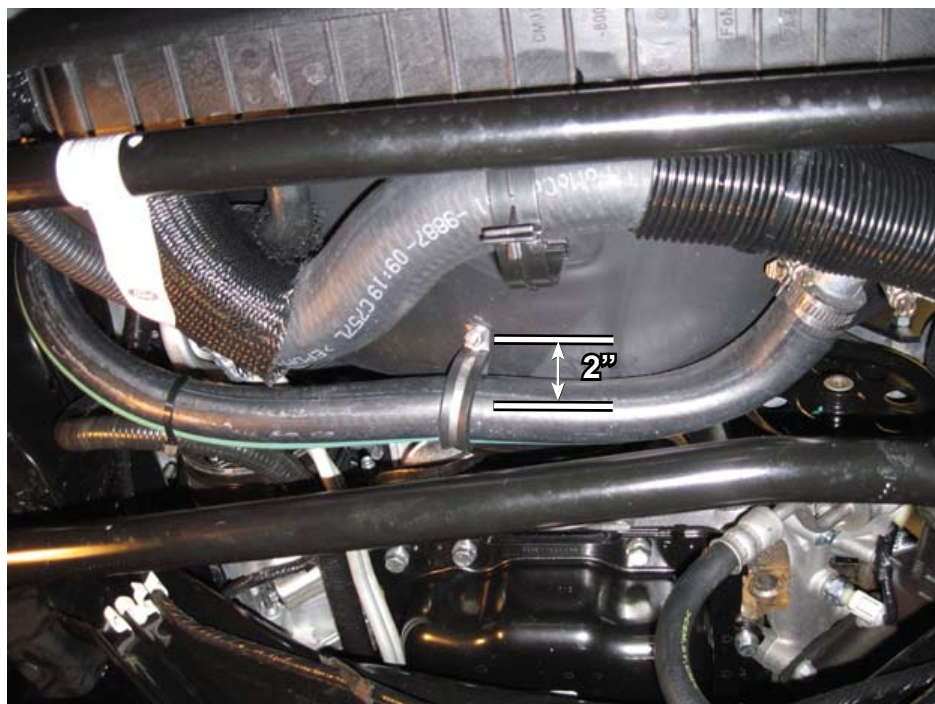

Figure 10. Drill 3/16" Hole Approximately 2" Back from Inside Edge of Fan Shroud
6. Drill a 3/16" hole approximately 2" back from the inside edge of the fan shroud and just off to the left of the black plastic clamp as shown in the picture (see Figure 10).